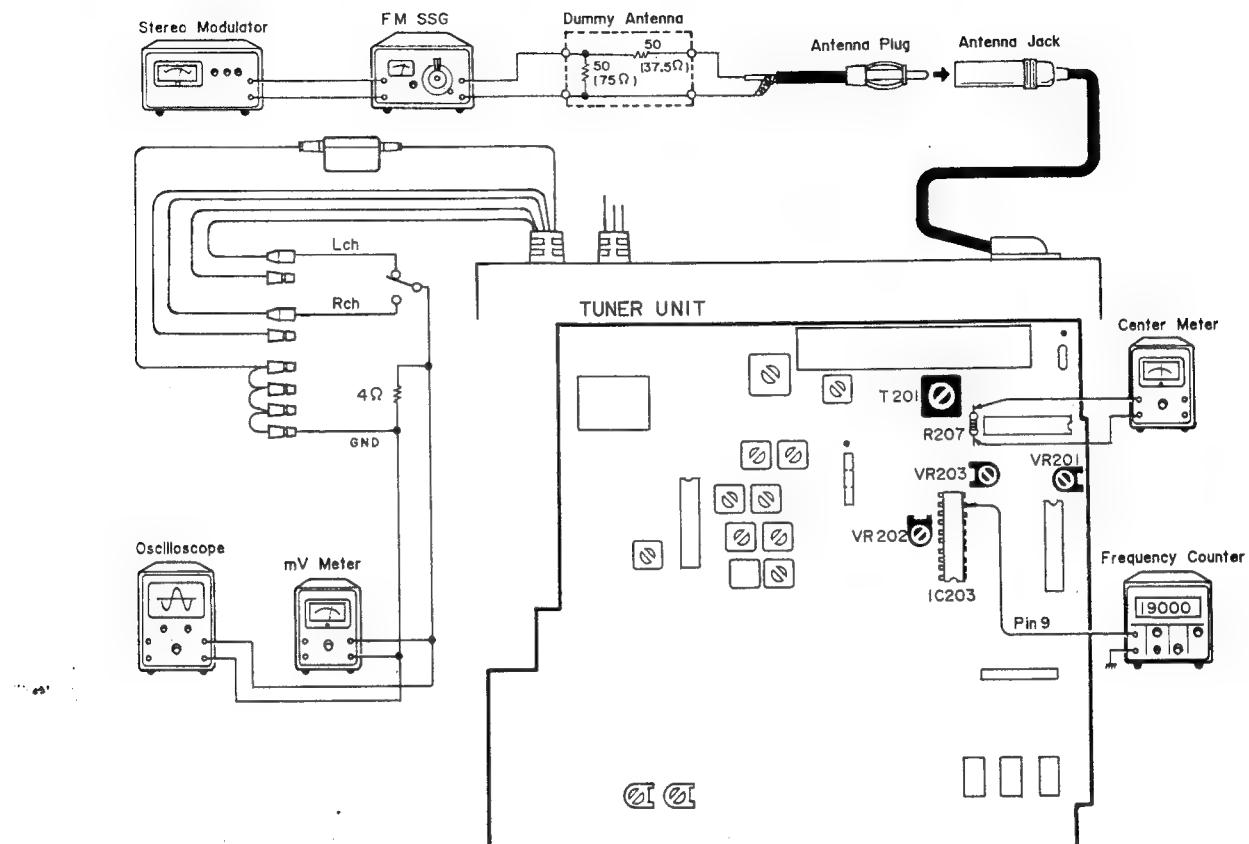

Fig. 8
- Connection Diagram (Show in Fig. 8)